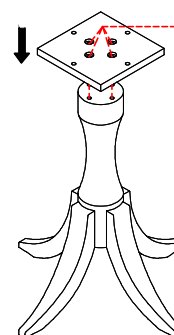

Figure 2
3. Attach the bridge plate to the top of pedestal, using Allen bolt (B), Lock Washer (C), Flat Washer (D) with Allen wrench (E) as shown in Figure 2.